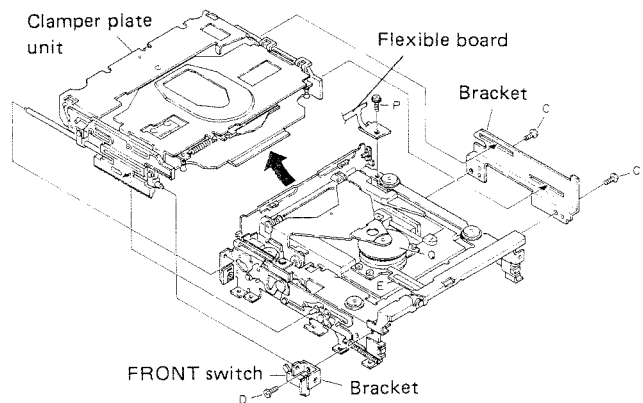

Fig. 15
• **Clamper Plate Unit Removal (Fig. 15)**